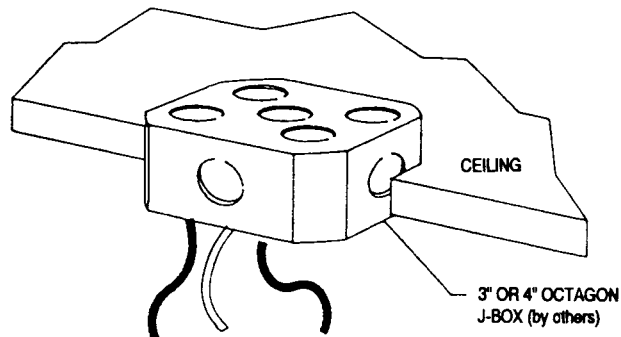

FIG. 1
4. Line up CROSS BAR center hole with KNOCK-OUT HOLE in connector. Connect GROUND WIRE (Fig. 2) to grounding terminal in J-BOX (Fig. 1). Pass supply leads from outlet box through CROSS BAR center hole and KNOCK-OUT hole in connector.